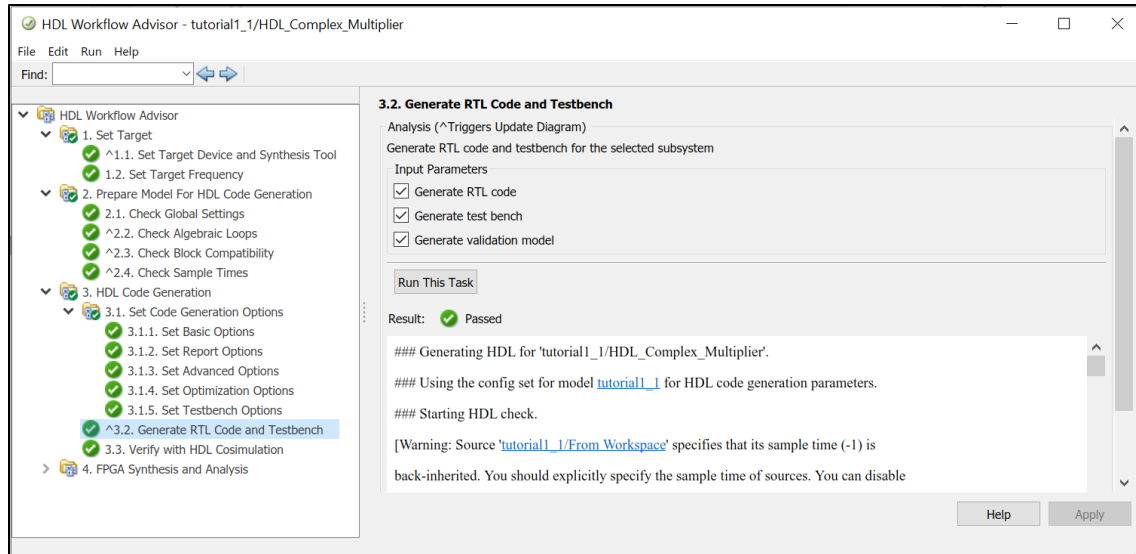

Figure 19: Generate RTL and Testbench options
- 3-13.** In step 3.2 Generate RTL code and Testbench, check the options related to testbench generation, as shown in Figure 19. Click Run this task. Note that a new Simulink model for HDL cosimulation is created and pops up upon the completion of this task.